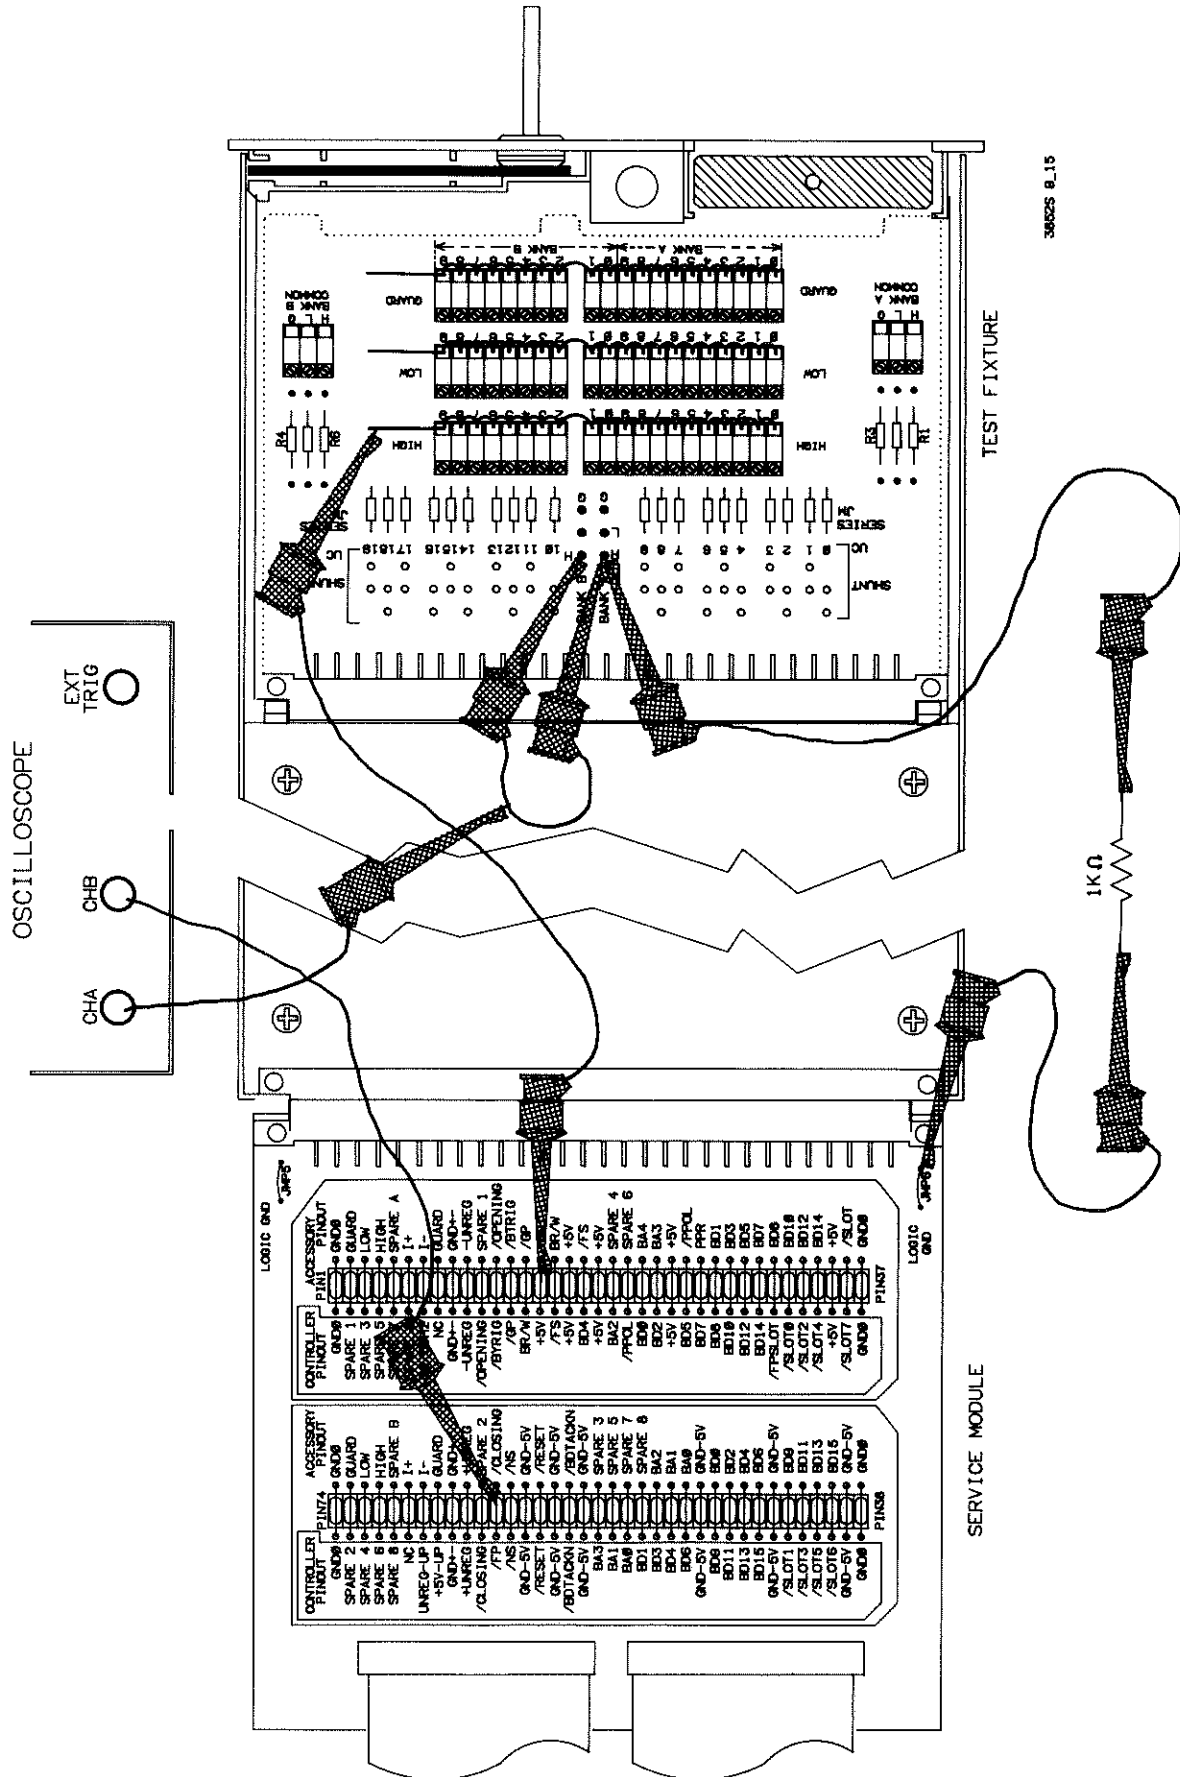

Figure 9-15 HP 44709A/44710A Closing Time Set-Up
1. Move the channel B oscilloscope probe to the CLOSING connection on the service module. The Closing Time test set-up is shown in Figure 9-15.